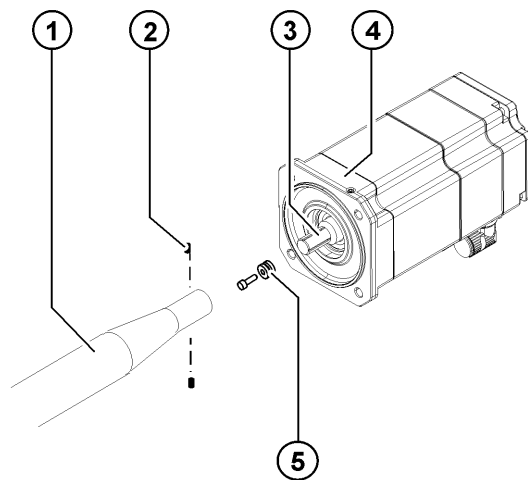

Fig. 11-14: Motor with connecting shaft
7. Slacken both setscrews (>>> Fig. 11-14) until the connecting shaft can be pulled off the tothing, and pull off the connecting shaft.